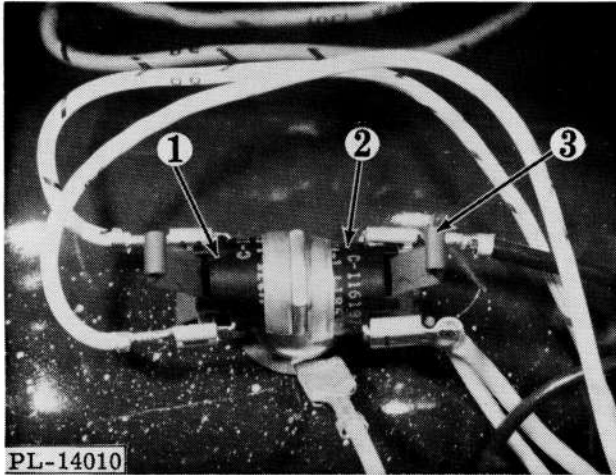

Fig. 24
Thermostat and Thermal Protector (KDS Only) (1 & 2, Fig. 24)
A thermostat (1, Fig. 24) (KDS only) controls the water heater during the Sani Cycle. It holds the timer motor circuit open (preventing timer advancement) until the water reaches approximately 180° F. at which time the thermostat closes, allowing the timer to advance.
The automatic thermal protector (2, Fig. 24) is a normally closed safety device. If for any reason the sump temperature exceeds approximately 200° F. the protector contacts open, stopping current flow to the 1400 watt water heater. It does not interrupt dishwasher cycle. It will automatically reset at approx. 150° F.
3. Disassemble thermostat and thermal protector by rotating them out of mounting spring (3, Fig. 24).